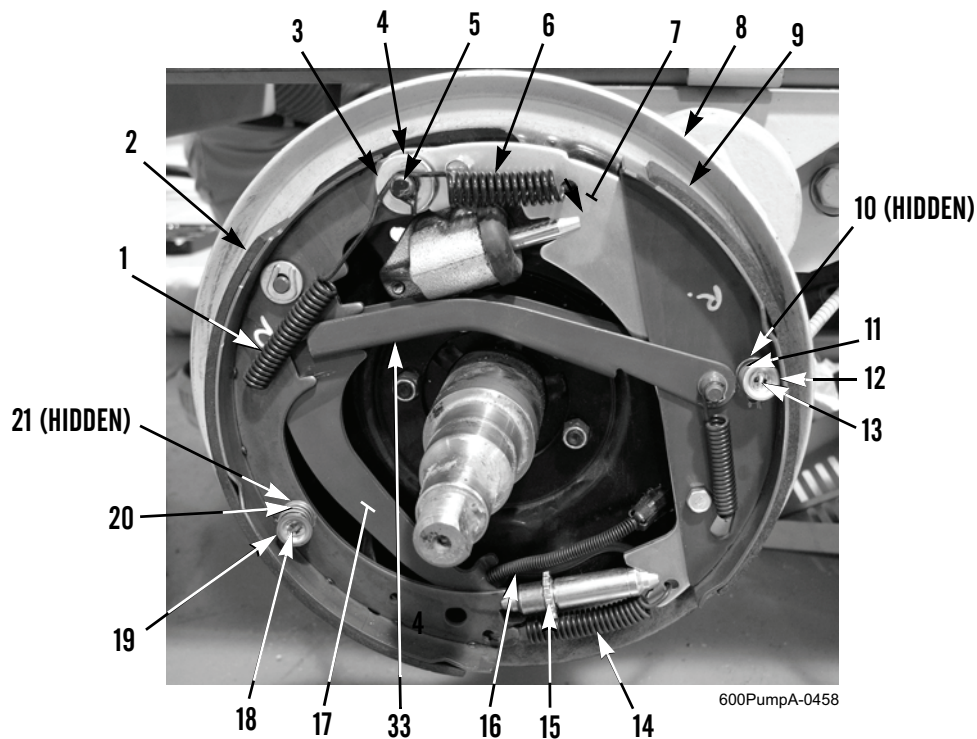

Figure 7. Right-Side Service Brakes.
14. Ensure slot at top of rear brakeshoe (Figure 7, Item 2) is engaged in anchor pin (Figure 7, Item 5), then install rear shoe spring (Figure 7, Item 1) on rear brakeshoe and anchor pin.
15. Install front shoe spring (Figure 7, Item 6) on backing shoe lever (Figure 7, Item 7) and anchor pin (Figure 7, Item 5).